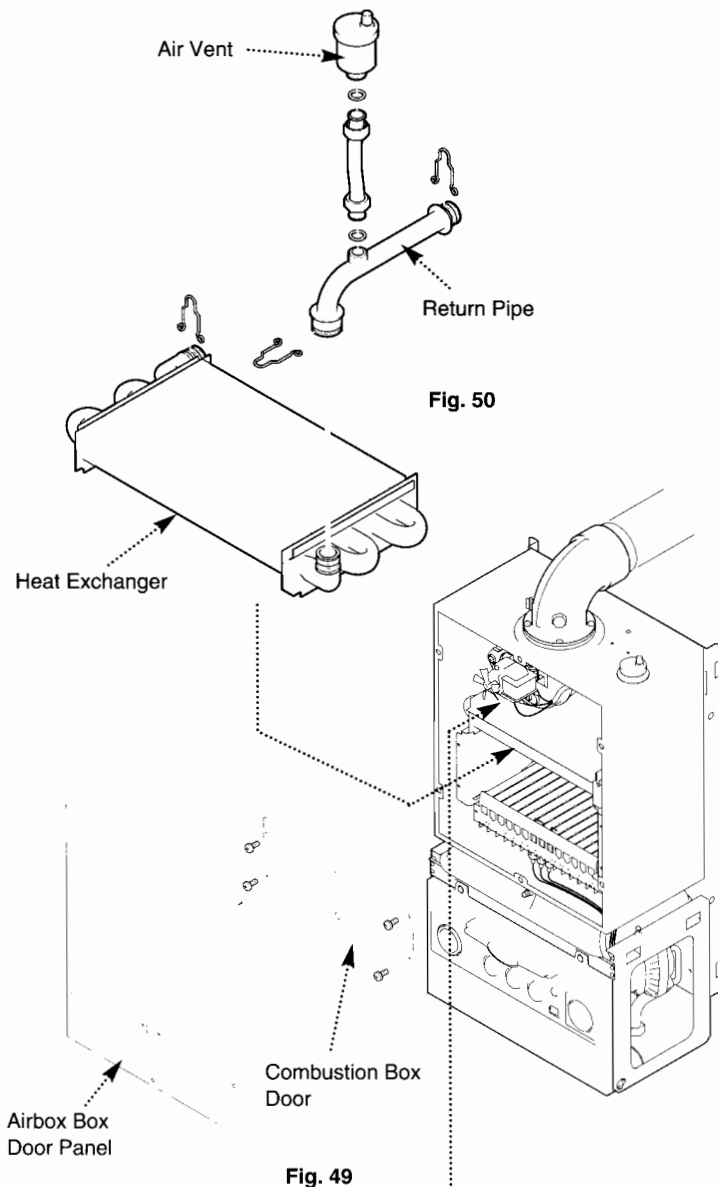

Fig. 49
1. Remove the airbox door panel by releasing the six 1/4 turn screws (Fig. 49).
2. Undo the four screws securing the combustion box door and remove the door (Fig. 49).